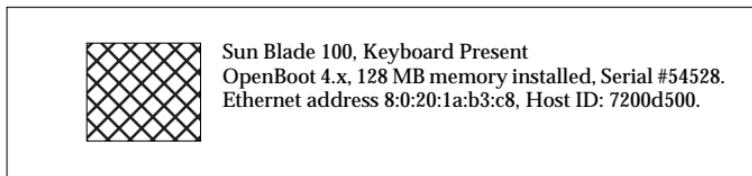

Figure 1-1 Banner Screen Example
Before you start to install additional DIMMs, reboot your system and check the banner screen on your monitor to verify the amount of memory already installed in your system. The banner screen is displayed at the top of your monitor screen before the system begins to reboot (Figure 1-1).
6. The banner screen is displayed on the monitor a few seconds after you power on the system (Figure 1-1 on page 1).